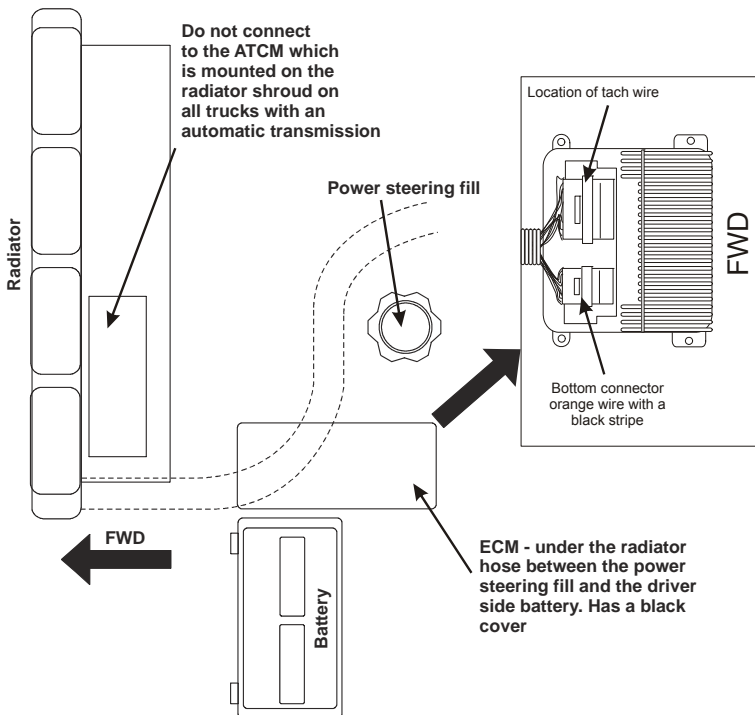

Figure 2.1
- ☐ Locate the ECM in the engine compartment (Figure 2.1) and find all wires that are orange with a black stripe in the bottom connector. Use a digital voltmeter (**DO NOT USE A TEST LIGHT**) to determine which wire has 0 Volts in Park/Neutral and 12 Volts in all other gear selector positions with the ignition on. Mark the wire with a piece of tape and turn the ignition off.
- ☐ **For 2007 Classic:** Find the white wire with the black stripe in the top ECM connector (Figure 2.1). You can verify that you have the correct wire by checking for a constant 3 Volts with the engine idling at about 600 RPM. If your multi-meter can measure frequency, the reading will equal engine rpm.
- ☐ **For 2006 Models:** If there is a white wire with a black stripe in the top ECM connector (Figure 2.1), ensure that it is the correct wire by using the same verification process as for the 2007 Classic. Mark it with a piece of tape and turn the engine off.
- ☐ Locate the Mid-Bussed Electrical Center (MBEC) under the instrument panel and left of the steering column (Figure 2.1).